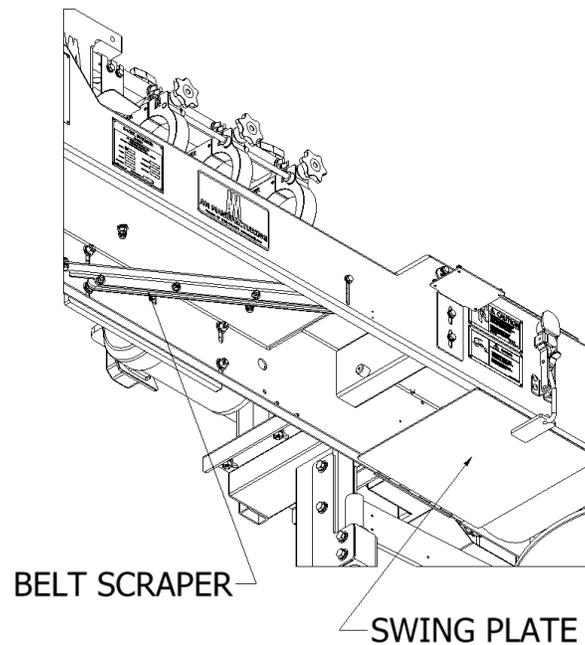

Figure 9: Scraper & Swing Plate
3. Clean the swing plate tensioner below the machine of any excess dough buildup. (Figure 9).
4. Clean any dough built up along the dough scraper below the bagel former. (Figure 9).